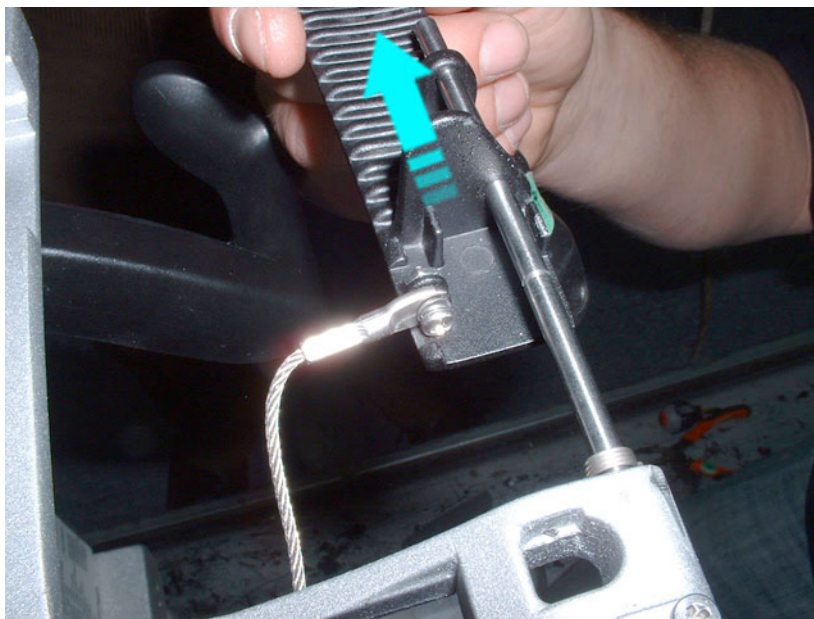

Figure 8-192 Release Cable and Slide Handle Sideways
- 7.) Disconnect the up-down/swivel cable from the handle to be replaced and slide the handle sideways to remove it from the supporting shaft - Figure 8-192.